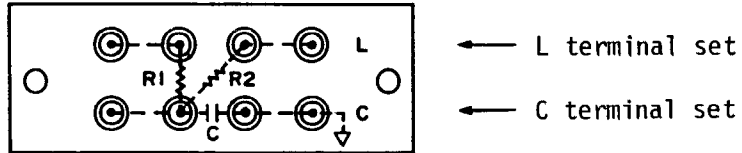

Figure 4-6. HP 16074A Quasi-inductor.
3. Connect 100 $\mu$ H quasi-inductor "L" terminals direct to 4275A UNKNOWN terminals. See Figure 4-6.
7. Connect the 100mH quasi-inductor "L" terminals directly to the 4275A's UNKNOWN terminals. See Figure 4-6.